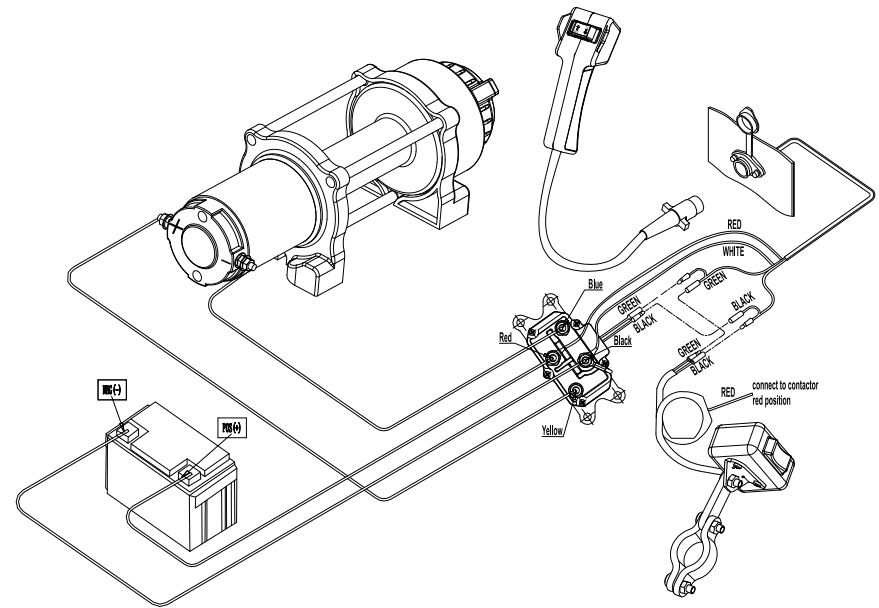

Fig. 5
Route the two couple of lines from the switch to the motor and battery respectively. Connect the red line to the positive (1) terminal and the green (or black) line to the negative (2) terminal of the battery. (See Fig. 5)